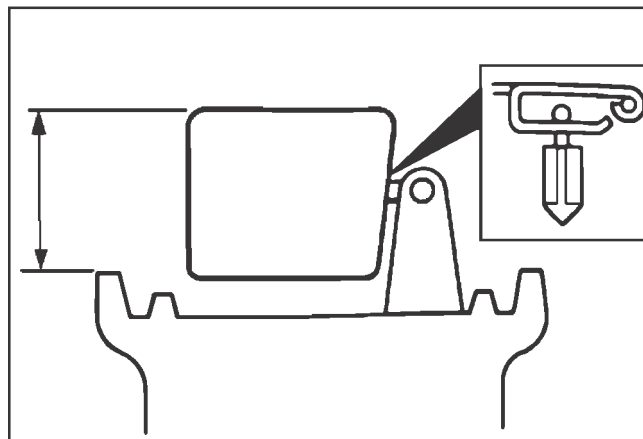
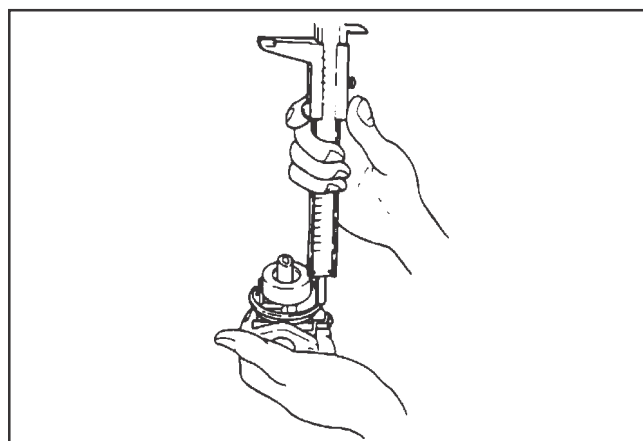

Figure 5-5. Float Height Position.
Figure 5-6. Measuring Float Height.
8. Place the carburetor in an inverted position. Lift up the float so that the tip of the float valve lightly contacts the float arm. See Figure 5-5. Measure the float height from the casting surface as illustrated in Figure 5-6. Float height for the CS4 and CS6 is 16 mm (0.63 in.). Float height for the CS8.5, CS10, and CS12 is 14.9 mm (0.59 in.). Install a float kit if the float height is incorrect.